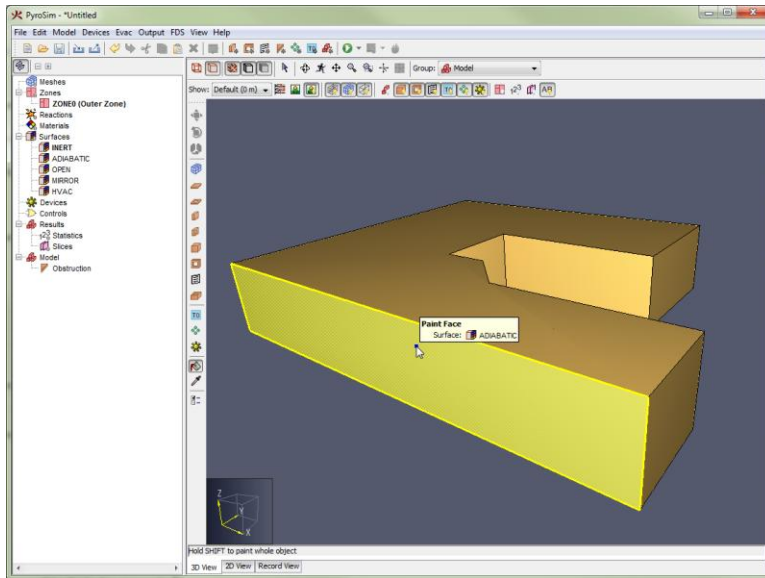

Figure 8.31. An obstruction face highlighted by the paint tool
2. Hover the cursor over the desired face to paint. If the face can be painted with the current surface/color, the face will highlight yellow as shown in Figure 8.31.